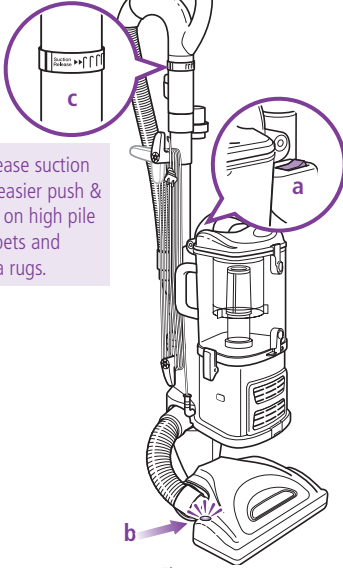

Fig. 11
- 3 Press the On/Off switch (a) to the "I" position to vacuum bare floors (straight suction only) or to the "II" position to engage the motorized floor brush (for vacuuming carpets and rugs). (Fig. 11)
▲ IMPORTANT: The motorized brush indicator light (b) will illuminate green when motorized floor brush is on, or red if there is a blockage or jam. (Fig. 11) This feature is designed to protect your Lifetime Belt that powers your motorized floor brush. See Checking for Blockages on page 15.
- 5 **Due to the huge suction power of this vacuum, it may become necessary at times to adjust the suction release on the handle. (Fig. 11) If the vacuum seems difficult to push or pull or if it is lifting up area rugs, adjust the suction release by rotating the collar 90° counterclockwise to open the valve. Rotate the collar clockwise to close the valve when you need high suction and for vacuuming floors.**